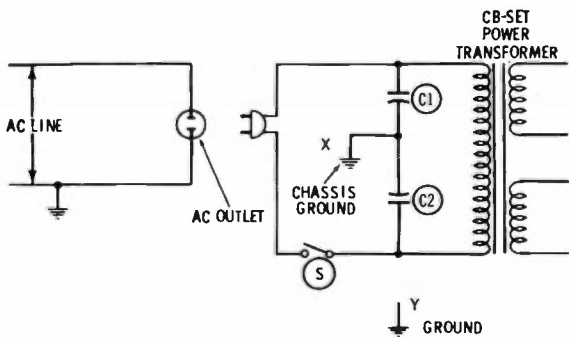

Fig. 7-7. CB-unit ac input circuit.
This potential shock hazard can be avoided by grounding the chassis of the CB set. The reasons for the existence of this shock hazard are illustrated in Fig. 7-7. One side of the ac power line is normally grounded; the other side of the power line is therefore hot with respect to ground. The typical CB set contains a line filter consisting of two capacitors, C1 and C2, one connected to each side of the power line and chassis ground. They are, in effect, in series with each other, across the ac line. Their midpoint, which is connected to the chassis ground, is the midpoint of the voltage divider which they form. Hence, with the power switch (S) of the set turned on, the chassis is at a potential of approximately 60 volts above ground. With the power switch open and the set power plug connected to the line as shown in the diagram, the chassis is at a potential approximately 120 volts above ground. By reversing the plug in the ac outlet, the chassis will
By grounding the CB-set chassis, the shock hazard is avoided, since point X (chassis) and point Y (external ground) in Fig. 7-7 are now at the same potential. The voltage across C1 is now the full ac line voltage and the voltage across C2 is zero. If the power plug is reversed in the ac outlet, the reverse is true.